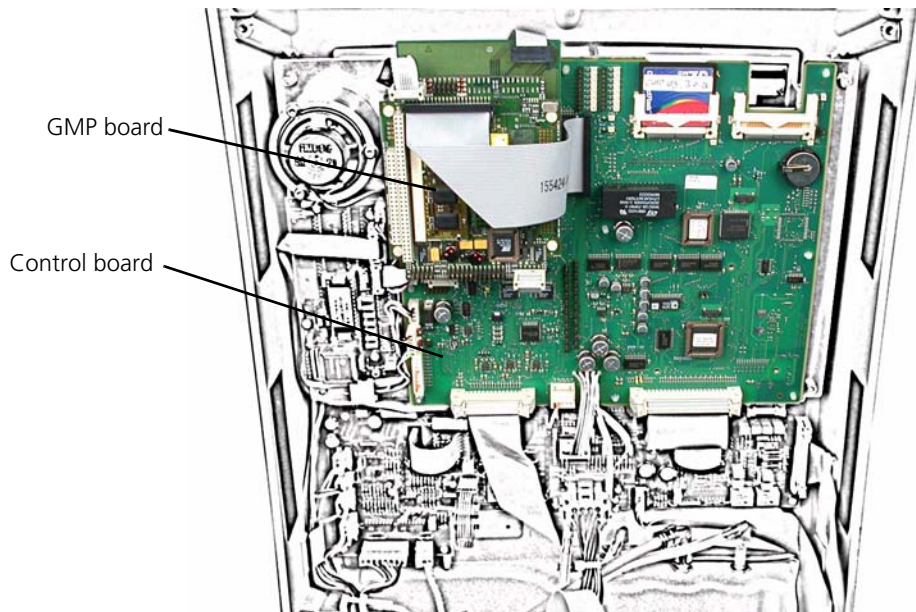

Figure 11-46. Position of the control board and GMP board inside the front enclosure
The control board is located in the front enclosure, on a large metal mounting plate. The *GMP* board is mounted on the control board. Both are shown in Figure 11-46 below, and Figure 3-1, *Components in the front enclosure*, on page 3-2.
2. Locate the control board and GMP assembly. (Figure 11-46 on page 11-46.)